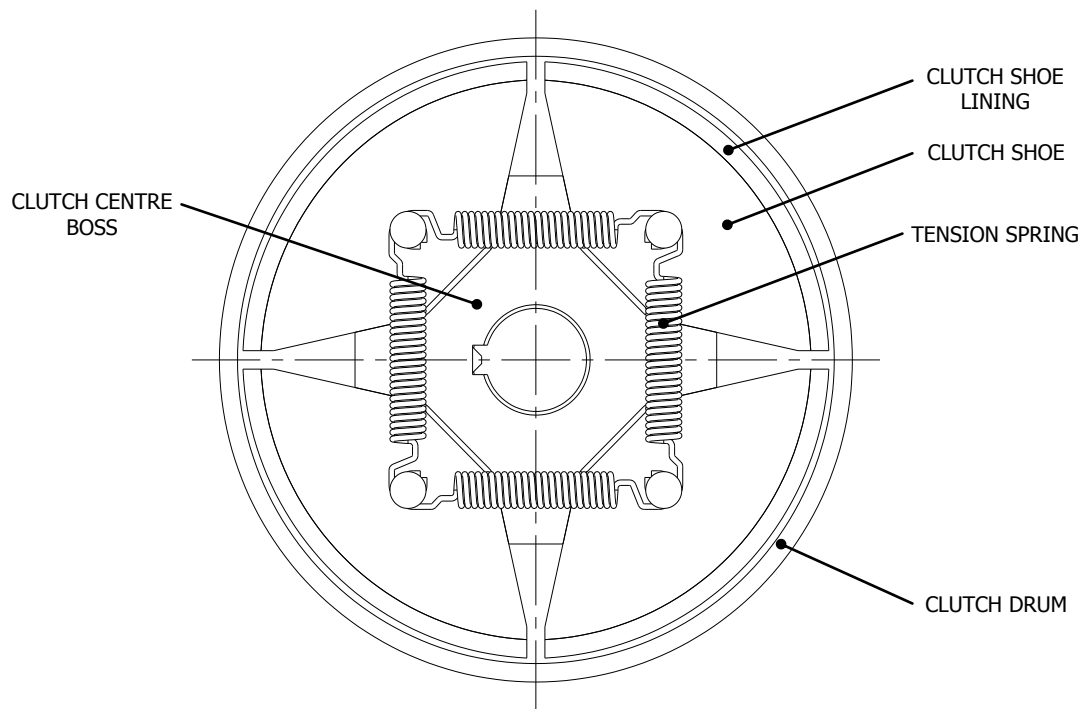

Figure 6.6: Centrifugal Clutch Shoe Mounting
- Check the clutch shoe linings for wear, if thickness is less than 2mm or level with the rivet heads, or the linings have become contaminated with oil or grease they need replacing. See figure 6.6: Centrifugal Clutch Shoe Mounting.